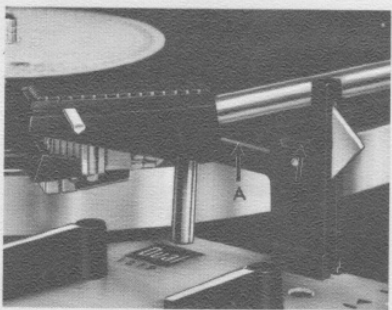

Fig. 17
5. For fine balance, turn the counterbalance. Each click-stop represents 0.01 gram. The tonearm is precisely balanced when edge "A" of the tonearm head and edge "B" of the tonearm rest are at equal height. (Fig 17) Another way to judge is to tap the chassis. The tonearm should return to the horizontal by itself.